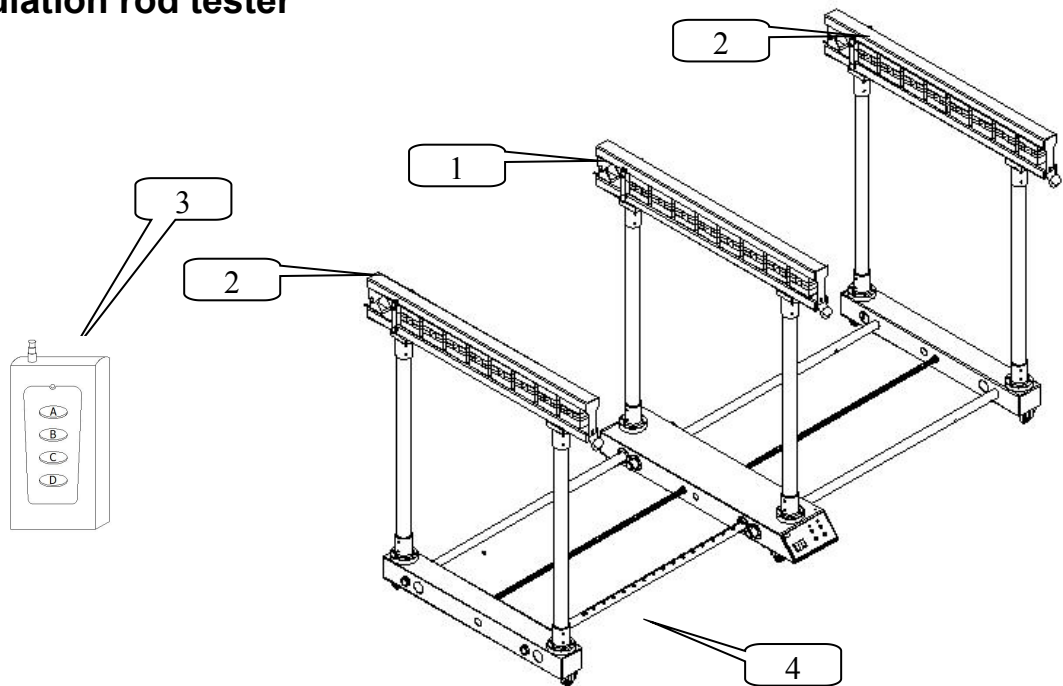

Figure 3 Insulation rod tester
- 3) Reference *figure 3 insulation rod tester* the installation screws of 6 insulating posts on the base are removed with a randomly attached hexagonal wrench, and the six insulating posts are installed in the corresponding position of the base respectively. The direction of the insulation post should be as above as above.